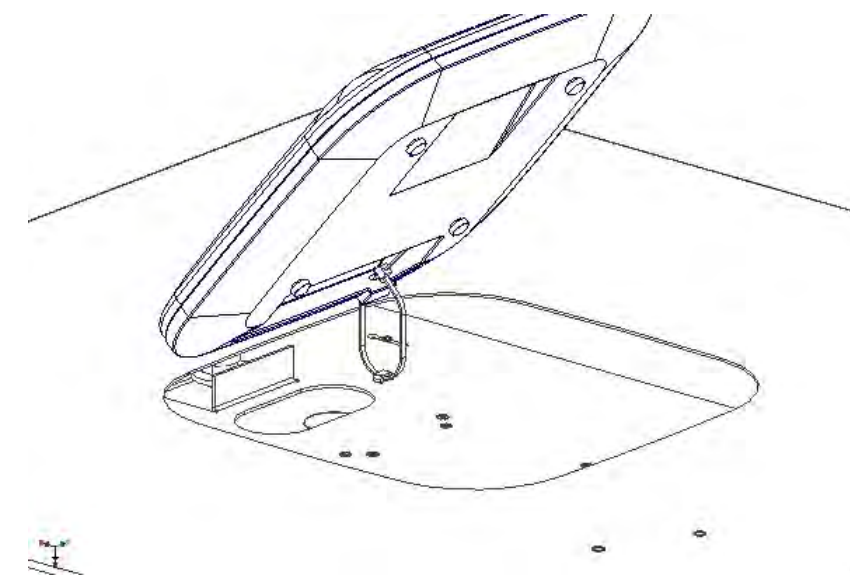

Figure 3 - Loosely attach the cable tie
Step 4 - Loop the cable tie through the tether anchor located on the mounting plate of the enclosure and lock the cable tie loosely (reference Figure 3).